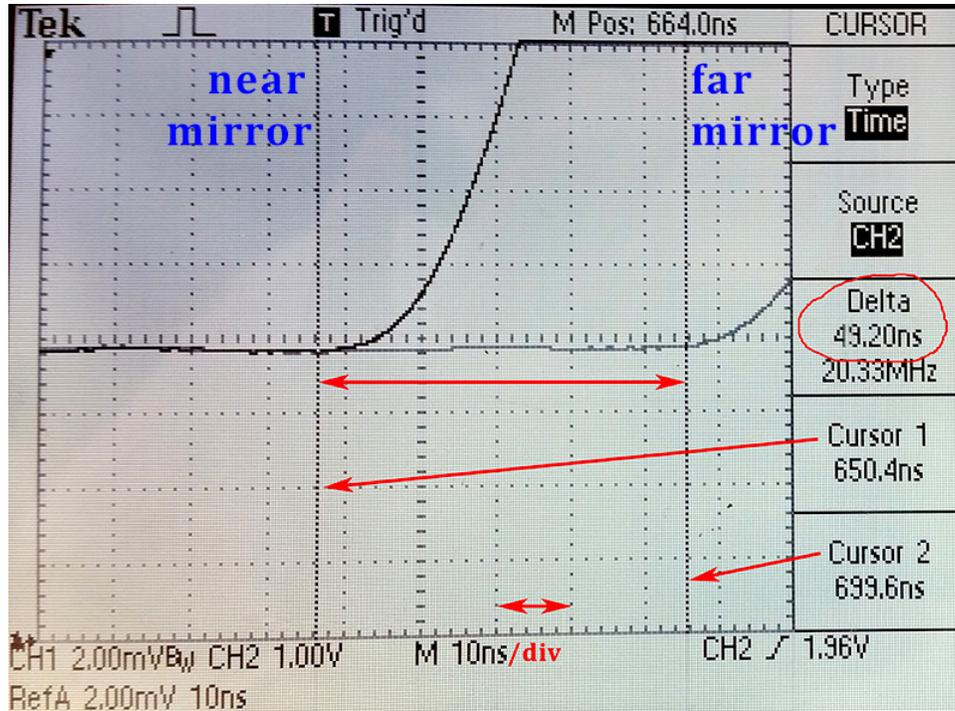

Figure 26: Typical Oscilloscope data
- The scope has the ability to save a trace and then display it. Average the far mirror trace, save it and then display it on the screen. Switch to the near mirror, average and make a measurement of Δt with the cursors. A typical display is shown in figure 26.